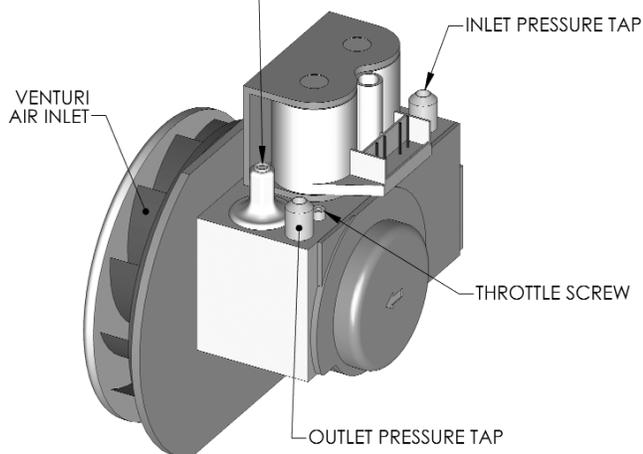

Figure 4.2: Gas Valve/Venturi PI-399
- c. Using a flat screwdriver, turn the screw inside the intake pressure tap fitting (see Figure 4.2) one turn counterclockwise.
1. Figure 4.2 shows an illustration of the gas valve/venturi assembly for the Pinnacle PI-399.
- a. The throttle screw on the valve should not be adjusted without a means to measure carbon monoxide (CO) and carbon dioxide (CO₂) emissions.